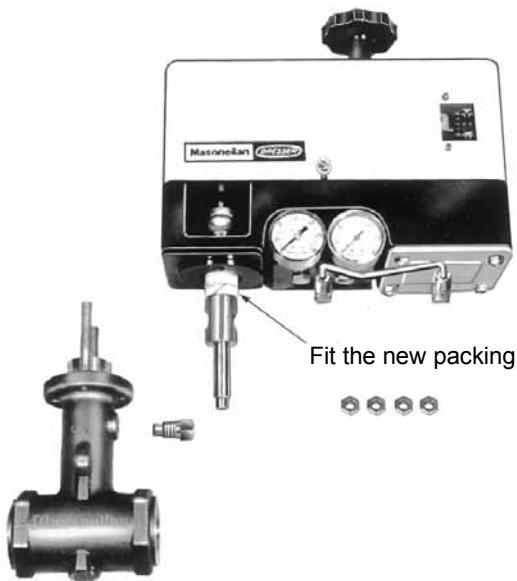

Figure 21 - Packing replacement
- N. Admit the signal and supply pressure and complete calibration. Refit cover (110) using the two screws (109). If the valve is equipped with a handwheel, refit the cover, then turn the handwheel clockwise until it is engaged in lever arm stop (122). Tighten cover screws (109).
5.5 PACKING QUICK CHANGE METHOD (ONLY FOR VALVES WITH MAX. C_v OF 0.6 TO 3.8) (Figures 21, 26 and 27)